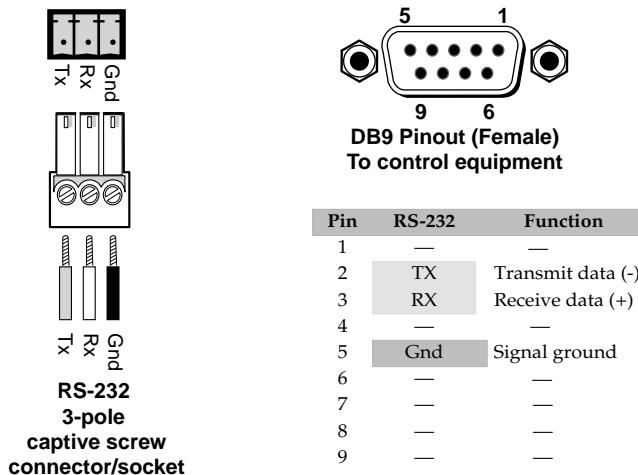

Figure 2-13 — Wiring the remote connector
- ⑩ **Remote connector** — Connect a host device, such as a computer or a touch control panel, to the MMX switcher via this 3-pole captive screw connector (figure 2-13) for remote control using the SIS or Windows-based control program.